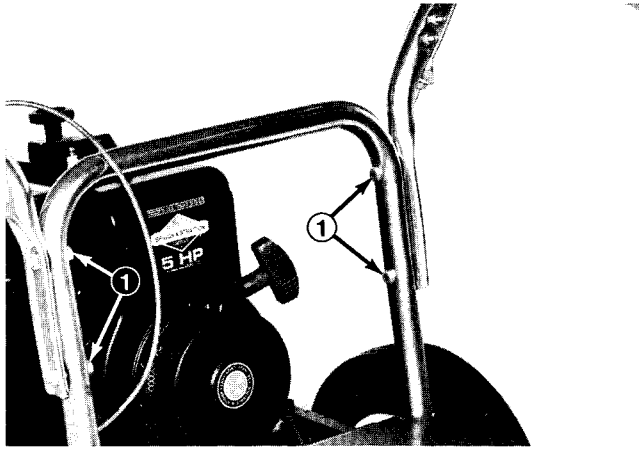

Figure 1
1. Attach upper section of handle to lower section with four 5/16 x 1-1/2" capscrews and locknuts (Fig. 1).